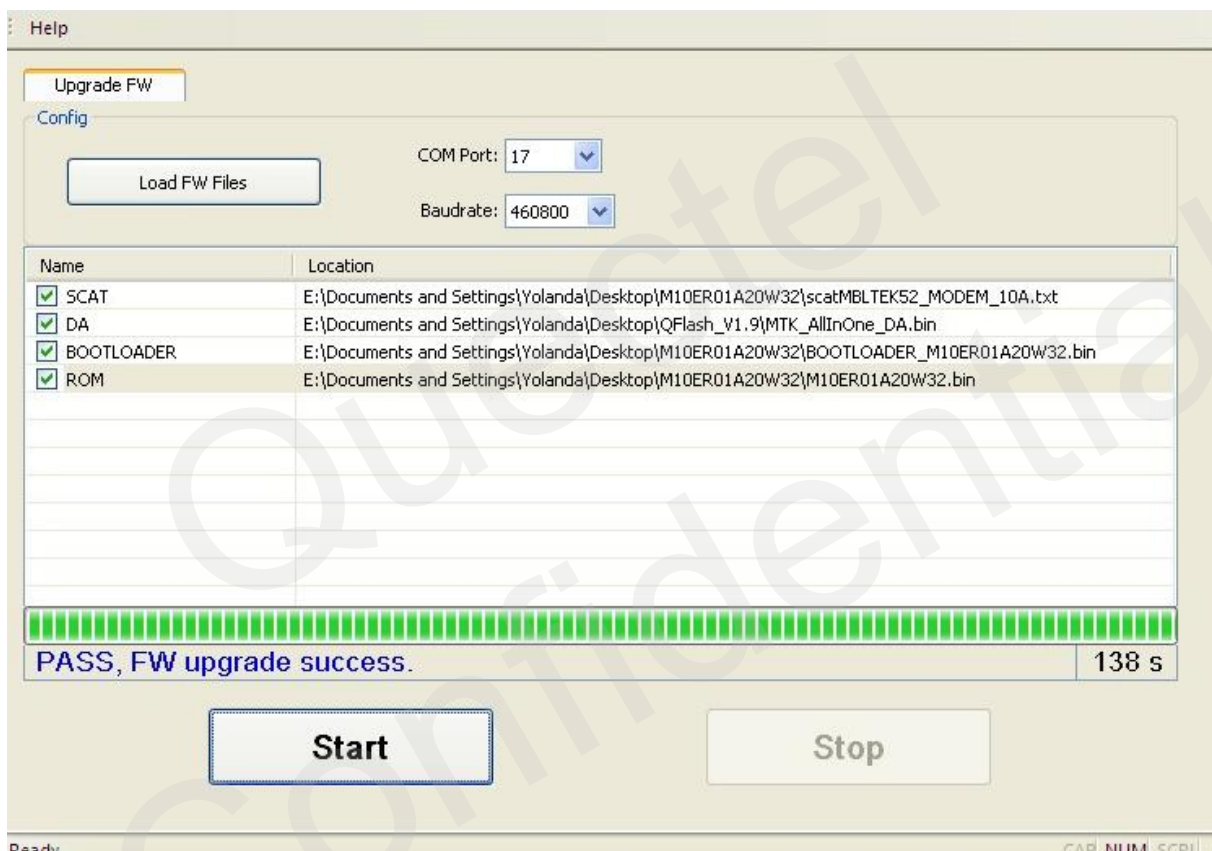

Figure 13: Successful Upgrade
Step 3: It will display “FW upgrade success” when successfully upgrading the module, shown as Figure 13.